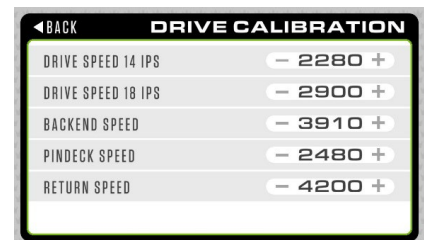

Figure 11 - Drive Calibration Screen
3.2.1.7 Drive Calibration Screen: (Figure 11)